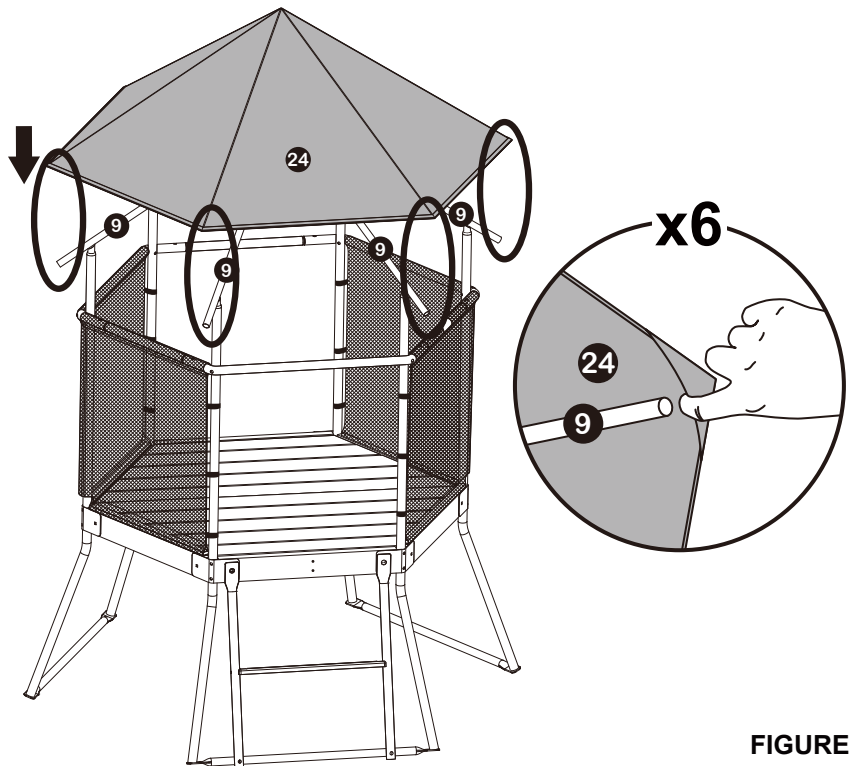

FIGURE 15
- Attach Canopy (24) to the assembled Canopy Tube (9) as shown in Figure 15.